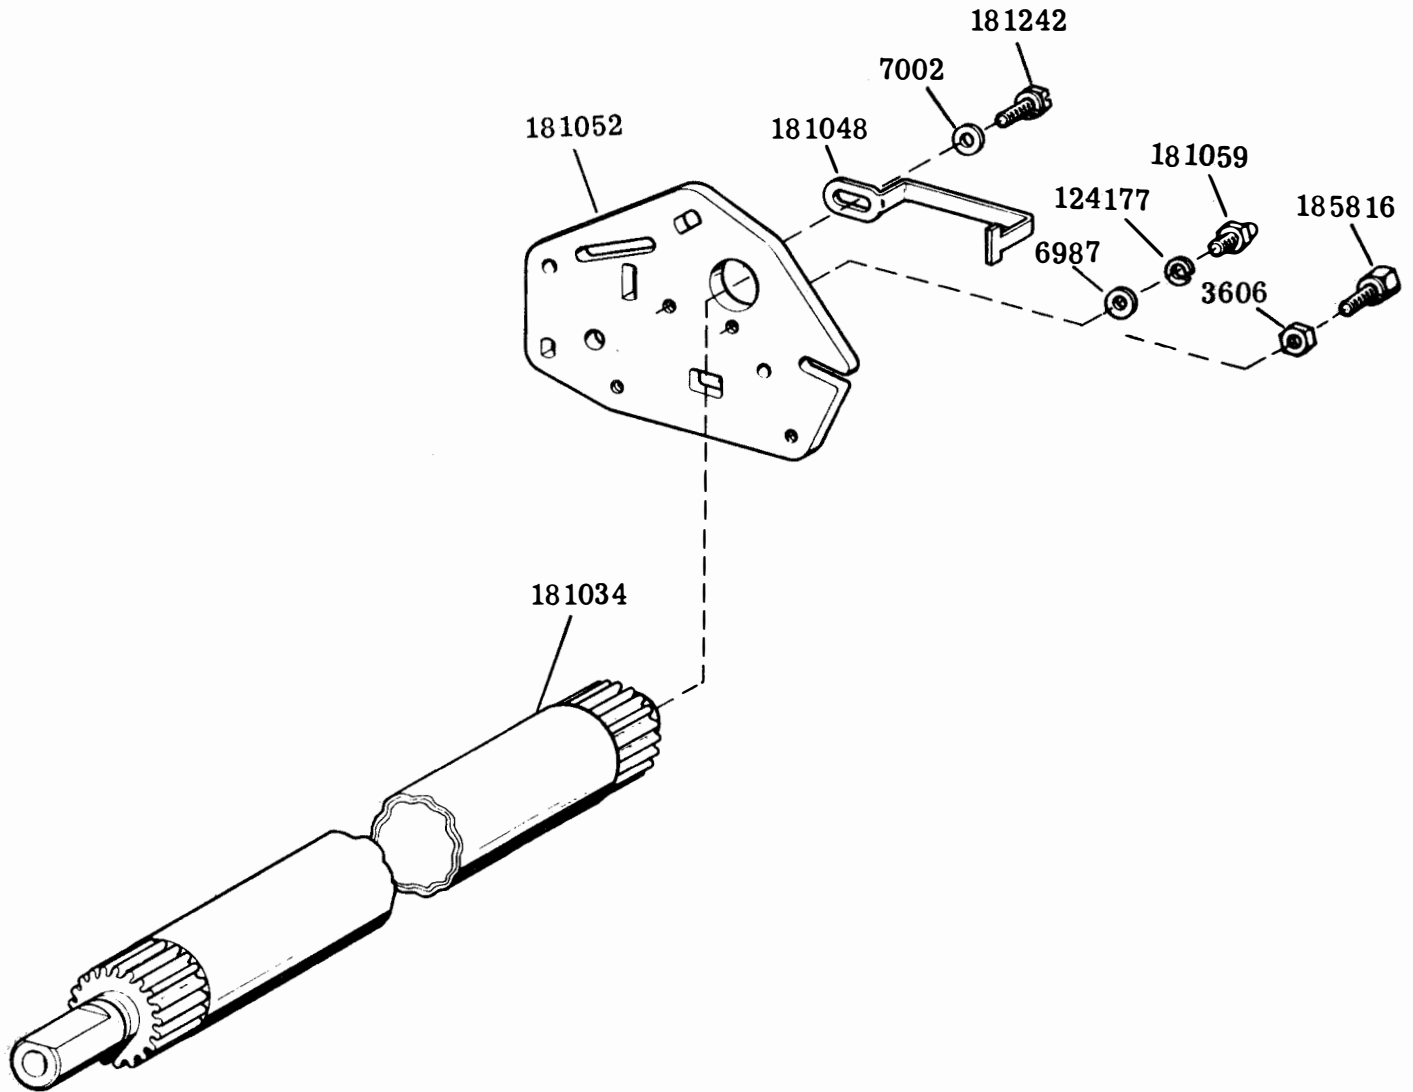

FIGURE 1
2. INSTALLATION (Figures 1 and 2 and Bulletin 1184B)